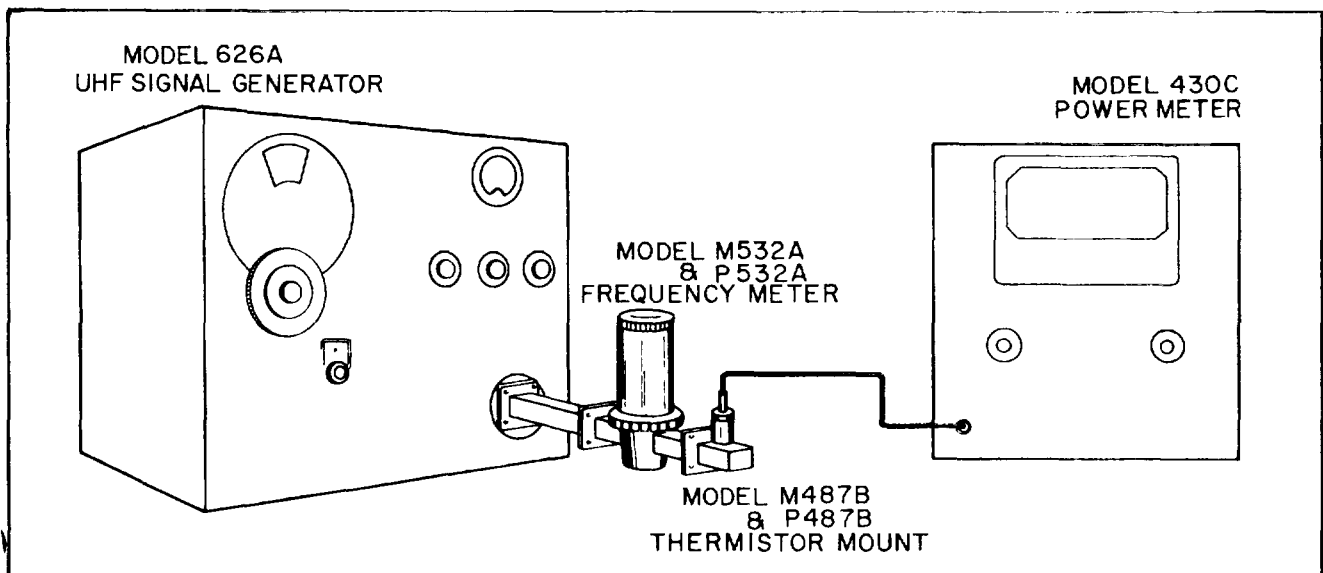

Figure 5-16. Test Setup for Adjusting Output Power
a. Connect test setup as shown in Figure 5-16.
- a. Connect test setup as shown in Figure 5-16.
- a. Connect test setup as shown in Figure 5-16 using M- band equipment.
- a. Connect test setup as shown in Figure 5-16 using P-band equipment and the Model MP292B Adapter.